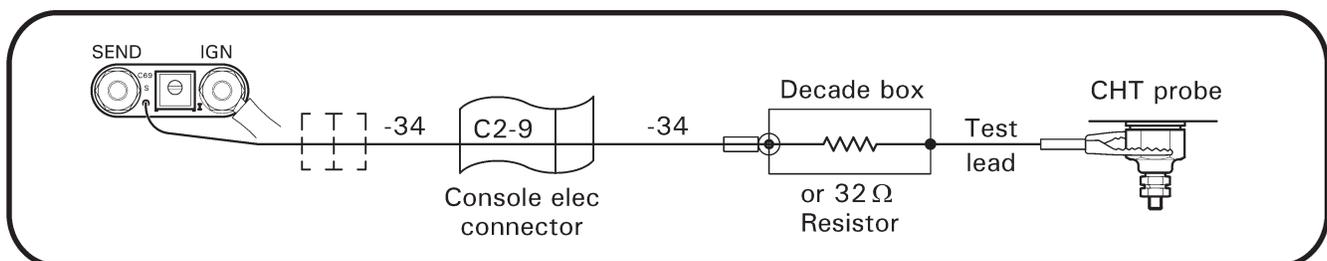

FIGURE 13-2 CYLINDER HEAT TEMPERATURE GAGE CALIBRATION
5. Refer to Figure 13-2. Adjust resistance decade box to 32 ± 0.4 ohms and verify resistance with multimeter. Alternately, a 32.0 ± 0.4 ohm resistor may be used instead of decade box. Connect a low-impedance (< 1 ohm) test lead to one terminal on decade box and clamp opposite end of lead to hexagonal body of CHT probe; do not connect lead to center conductor of sender/probe. Connect -34 wire to remaining terminal on decade box.